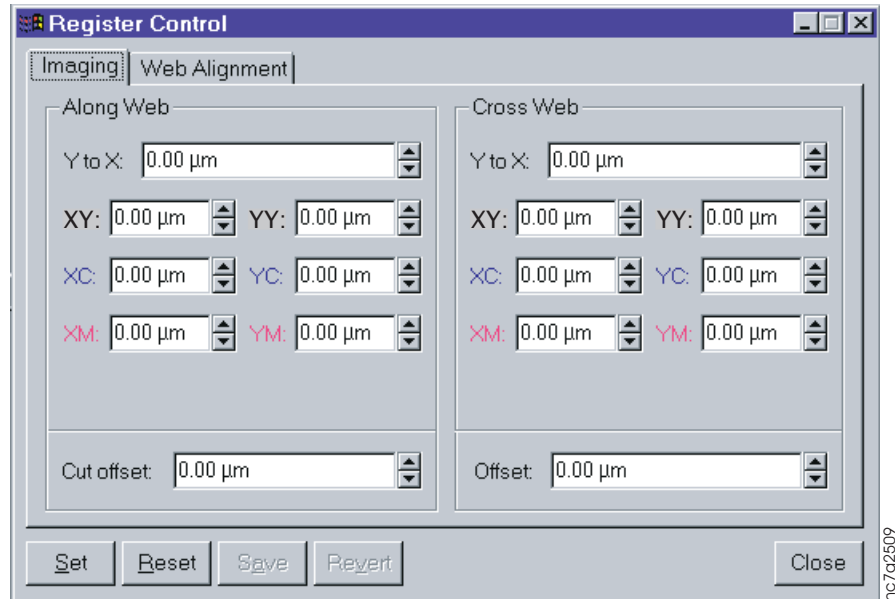

Figure 188. Register Control Window
1. Open the **Register Control** window, as shown in Figure 188 on page 215.